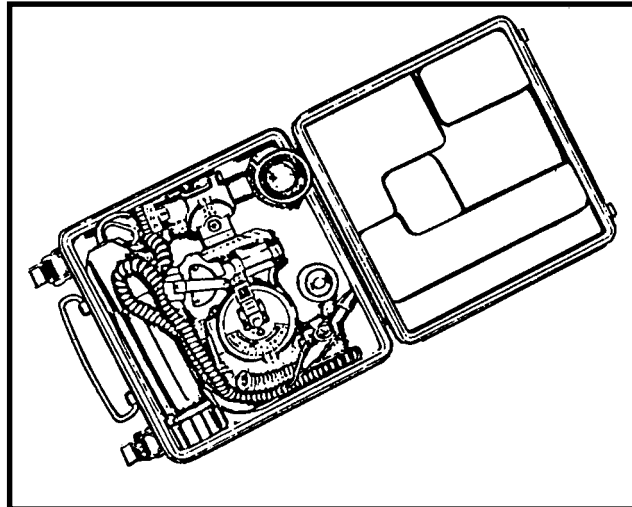

Figure 2-23. Carrying case, M166.
d. The M166 carrying case is a lightweight, sturdy case with an isofoam bed that provides storage for the M53 sightunit and the M53 instrument light (Figure 2-23, page 2-36).